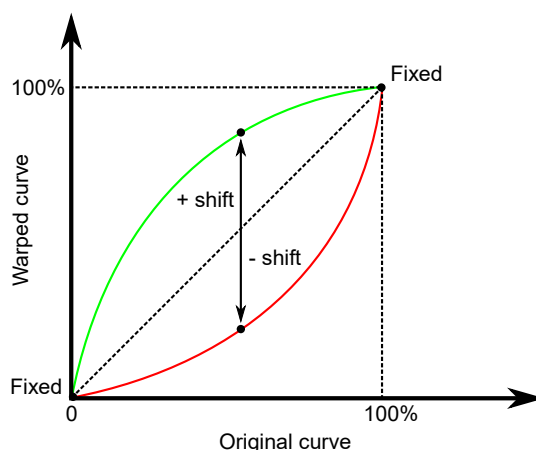
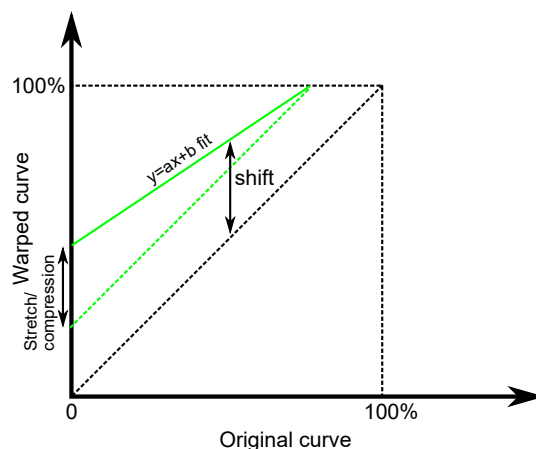

Figure 4.1: Non-linear shift with fixed edges.
Figure 4.2: Global shift with a linear stretch or compression.
1. **Non-linear shift with fixed edges** (see Figure 4.1): A non-linear shift is performed on the curve to obtain the highest correlation between the trace and its weighted average. The extremes of the curve are thereby fixed as anchor points so that a global stretch/compression is not possible. The
2. **Global shift with linear stretch/compression** (see Figure 4.2): The curve is aligned to its weighted average by means of a global shift and a linear stretch/compression factor. The extremes of the curves are thereby not used as fixed anchor points. This alignment has two degrees of freedom and is
of the curve is possible within the fingerprint active zone (see Figure 4.1). If this setting is switched off, a linear stretch/compression is applied on the curve (see Figure 4.2).